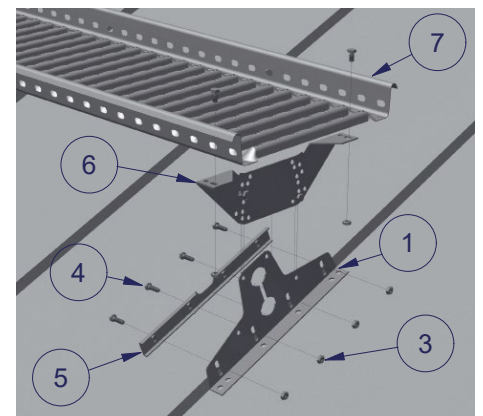

figure 3
- LE SK 350 bracket and striking plate for standing seam creates a tight crimped connection. Use 4 pcs of M8x30 hexagon bolts and 4 pcs of M8 hexagon nuts to connect the parts together (figure 3 ja 4).